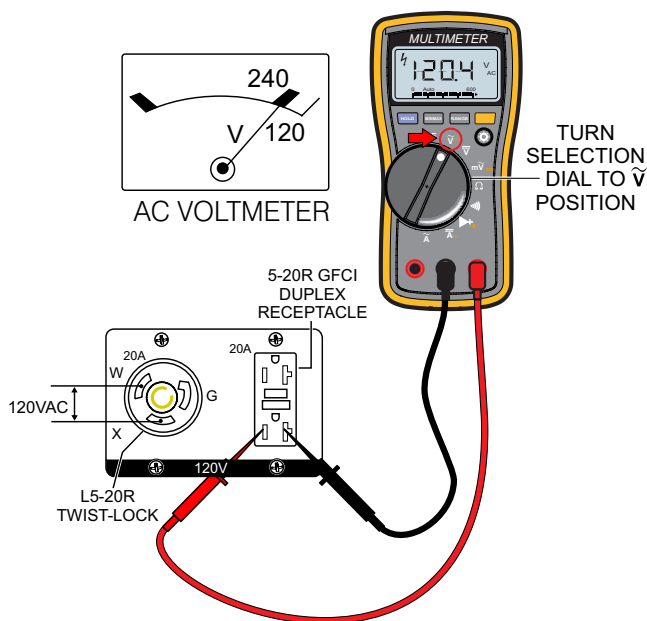

Figure 20. 120V Twist-Lock/GFCI Receptacles
- Read voltmeter on front panel of generator (Figure 20) and verify that 120 VAC is displayed. Using an external voltmeter as shown in Figure 20, verify that 120 VAC is present at the 120V twist-lock and GFCI duplex receptacles.